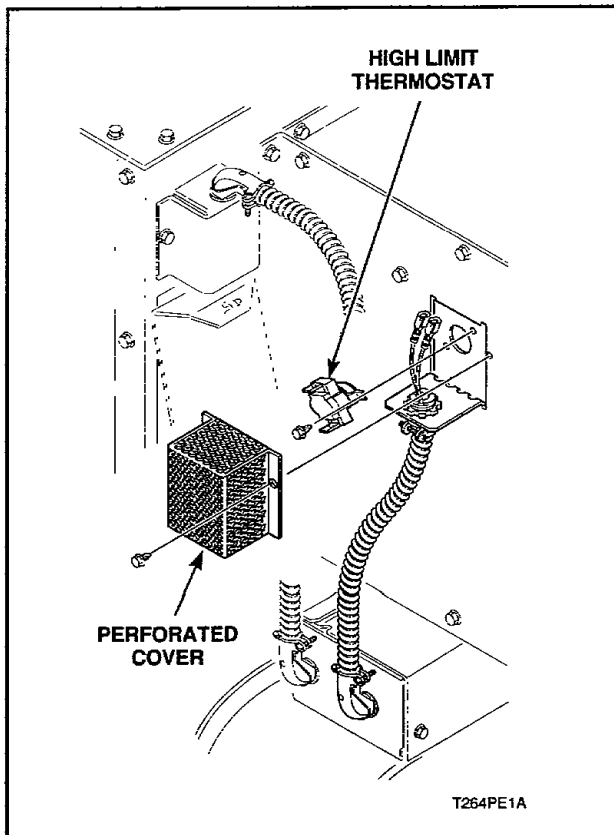

Figure 17
24. STOVE HIGH LIMIT THERMOSTAT (Figure 17)